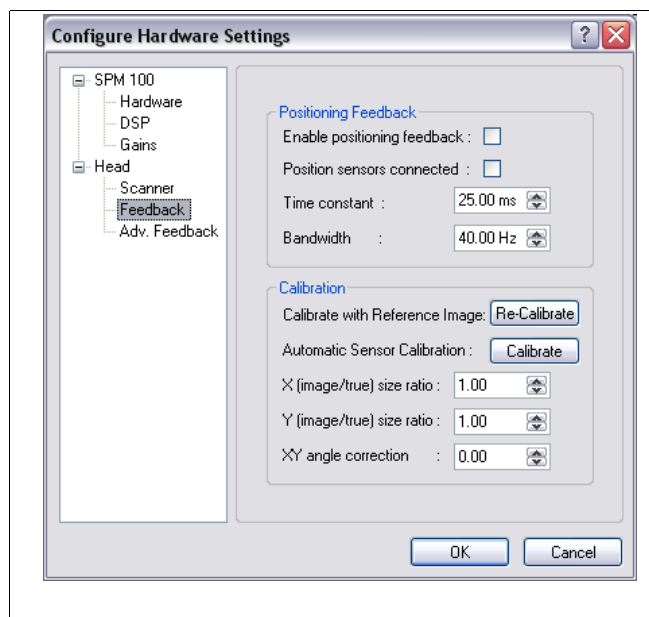

Figure 8
The parameters that determine the performance of the closed-loop scanning are entered in the feedback tab as shown in Figure 8. Turn On **Enable positioning feedback** for scanning to proceed under closed loop control. All piezo nonlinearities and drift should be eliminated. Do not activate this feature unless the position sensors are properly connected and the full concept is completely understood as improper usage can result in scan head damage. After connecting the outputs of the sensors to the rear panel ADC inputs, turn on **Position sensors connected**. Be sure to use DSP ADC#1 for the X axis and DSP ADC#2 for the Y axis. The **Time constant** / **Bandwidth** parameter should be adjusted to set the performance of the closed-loop sensor circuit. Since there is an inverse relationship between the two, setting either of them determines the other. The user can set whichever one is more comfortable to think about. Click the **Calibrate** button to perform the automatic calibration routine. If at a later time, the calibration should be checked, simply click **Recalibrate**. If a manual calibration was performed by scanning a known reference and measuring the nonlinearities, they can be entered in the next three parameters, **X(Y) size ratio** and **XY Angle correction**.